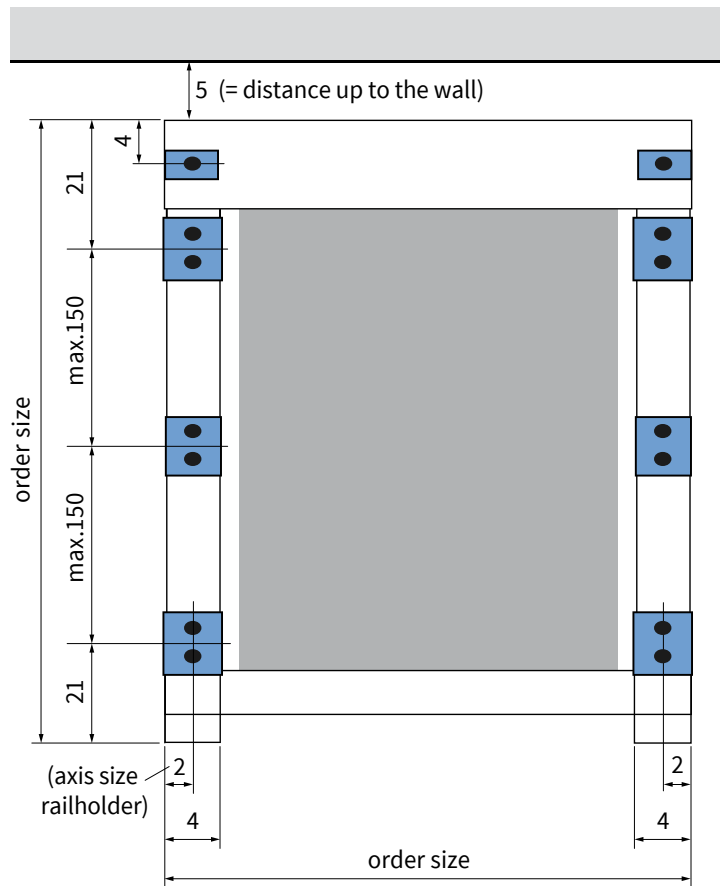

Fig. 1 Upper side view veranda sun protection
- Install the installation brackets for the boxing on the beams of the veranda. See figure 1 on page 3 for the dimensions. **Attention!** Don't forget that the installation distance is 5 cm from the wall.
- Install the rail holders/installation feet to the beam. See figure 1 on page 3 for the dimensions.